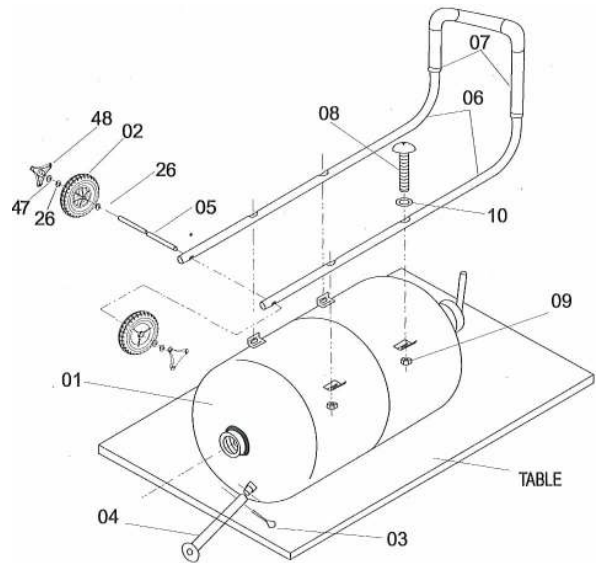

Figure 2
5. Lay the Abrasive Blast Tank on a flat level surface (such as a workbench or table top), with the handlebar mounting brackets facing up. (Figure 2)
6. Align the 4 holes in the Handlebar (06) with the four holes in the handlebar mounting brackets. Note: Keep the curved end of the handle facing upward.
7. Place a Washer (10) onto each of the four handlebar mounting Screws (08) and insert them through each of the four holes.
8. Place a nut (09) onto the end of each screw and firmly tighten with a wrench.
9. Locate the Wheel Axle (05) and slide it through the axle holes located at the bottom of the handlebar.